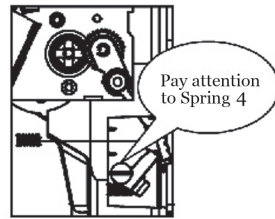

Figure 5
- The wire must pass through Wire Guide C and in between the two feeding gears until it reaches the flared tube. Then push the wire an additional ½ inch into the flared tube. (figure 5)
- Release the Release Stopper and confirm the Release Lever has returned to its original position. Note: the wire must be clamped in between the feeding gears. (figure 5)
- Release the lever and remove Comp. Spring 3. Be careful not to lose the smaller Comp. Spring 4 on the Release Stopper. (figure 5)